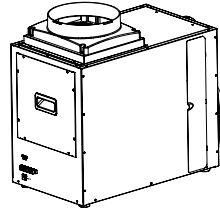

Figure 2
- **Figure 2:** shows the adjustable air exhaust direction, which users can modify according to their needs. To adjust the exhaust direction, follow these steps:
1. Install the fan onto the top cover plate in the direction shown in Figure 2, and secure it with screws (make sure to reconnect and install the fan power and control cables properly).